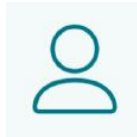

Figure 118. User Menu
1. Open the main menu by clicking the top left icon. See Figure 118.